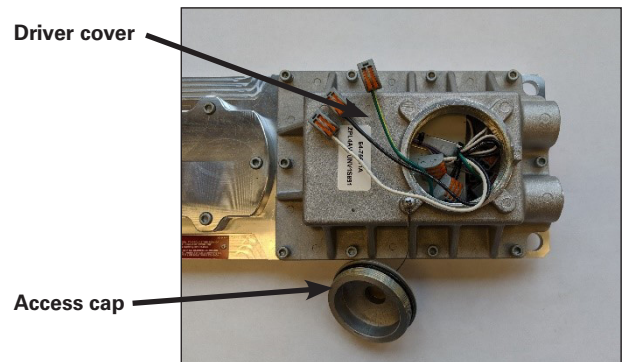

Figure 8
1. Open the threaded wiring access cover (see Figure 8) and allow the cover to hang by the lanyard. Terminate the equipment grounding conductor (green) first, the common (white) next, and finally, the line voltage (black) last. Tighten all electrical connections. Note -Standard openings are 3/4" NPT.
1. Verify sufficient HTL Lubricant is on conduit entries (recommend approximately 1/8" bead around the first thread) and that all unused conduit entries on the driver cover are closed with lubricated plugs (see Figure 8).
2. Verify conduit is installed for at least five (5) full threads into the driver cover conduit entries.
7. Verify access cap is tight and cap is in contact with luminaire housing with at least five (5) full threads engaged.